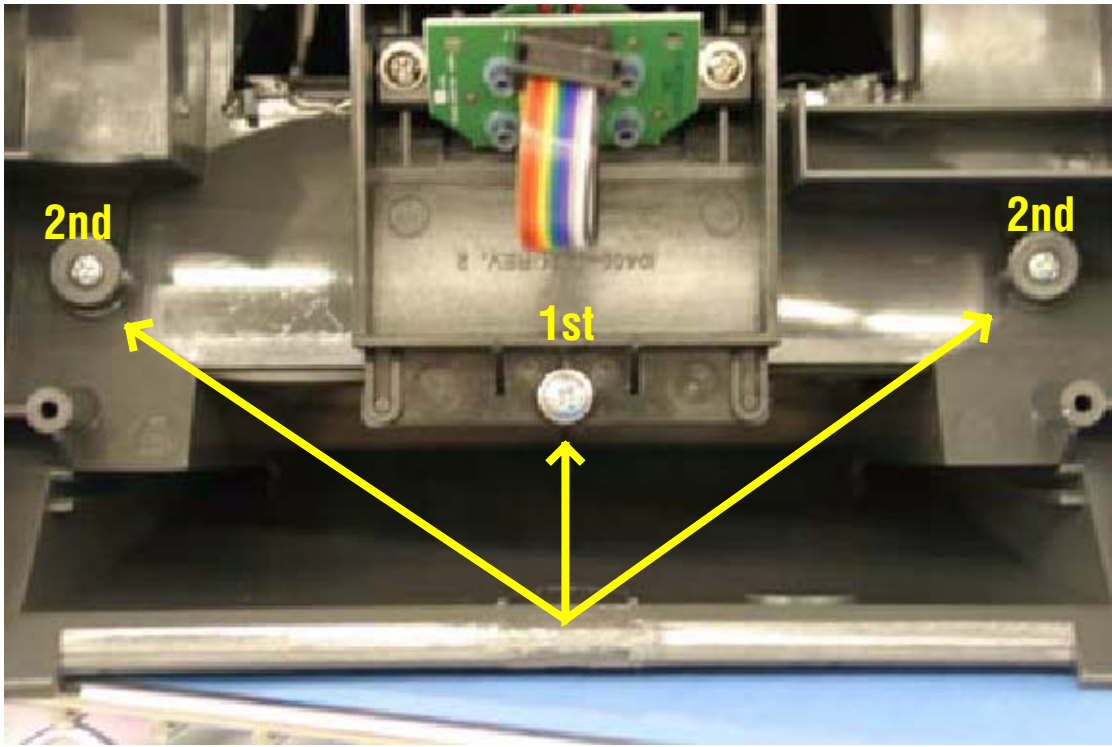

Figure 7
- 16. Replace the screws in the order listed on figure 7. Be careful to not over-tighten while at the same time still making sure that the screws are snug and that the platen-base is seated flat against the chassis.